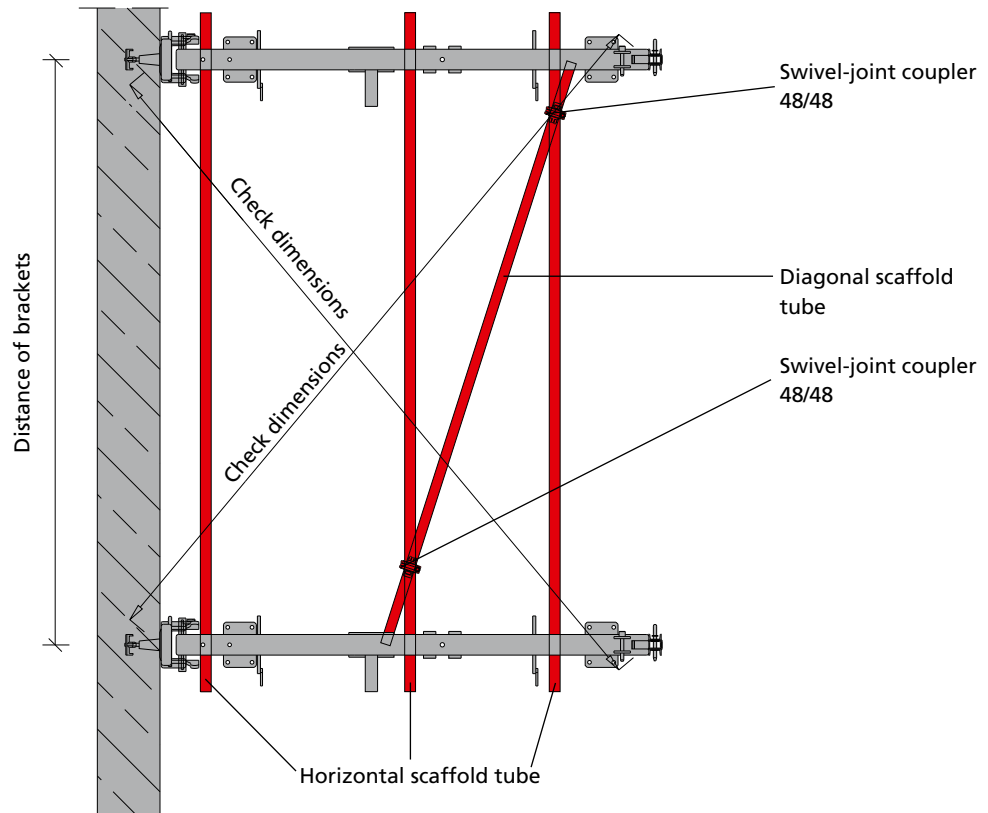

Fig. 18.1
1. Check the distance of brackets (Fig. 18.1).
2. Attach 3 horizontal scaffold tubes to the bolt-on tube couplers of the bracket. Attach one diagonal scaffold tube to the 2 horizontal scaffold tubes by using swivel-joint couplers 48/48 (Fig. 18.1 and 18.2).